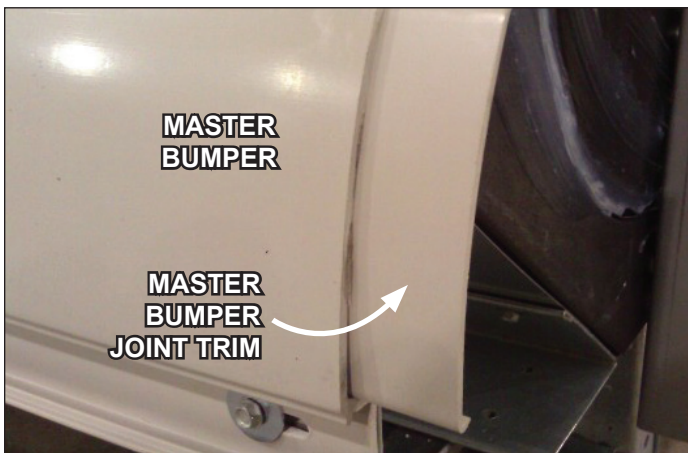

Fig. 3 Master bumper and joint trim
1. To align the master bumpers, install the master bumper joint trim in between adjoining master bumpers. (Fig. 3). Slide the master bumpers left or right to close the seams as required, working outwards from the center of the line-up to the ends.